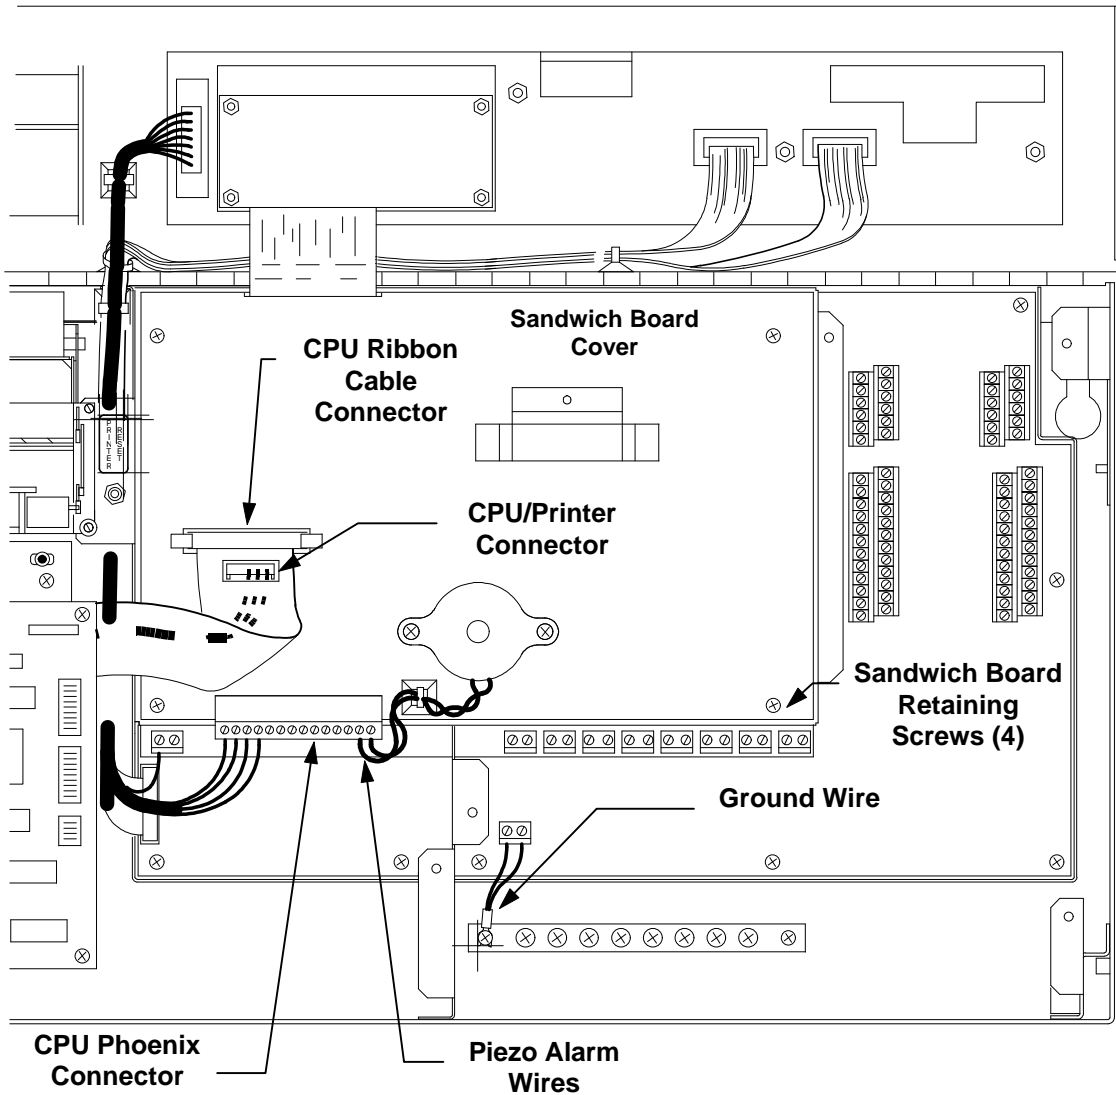

Figure 2 Sandwich Board Set Removal
4. Disconnect the piezo alarm wires from the CPU phoenix connector and unplug the connector. Disconnect the CPU ribbon cable, CPU/Printer connector, and the ground wire to the inventory sensor bus. Refer to *figure 2*.